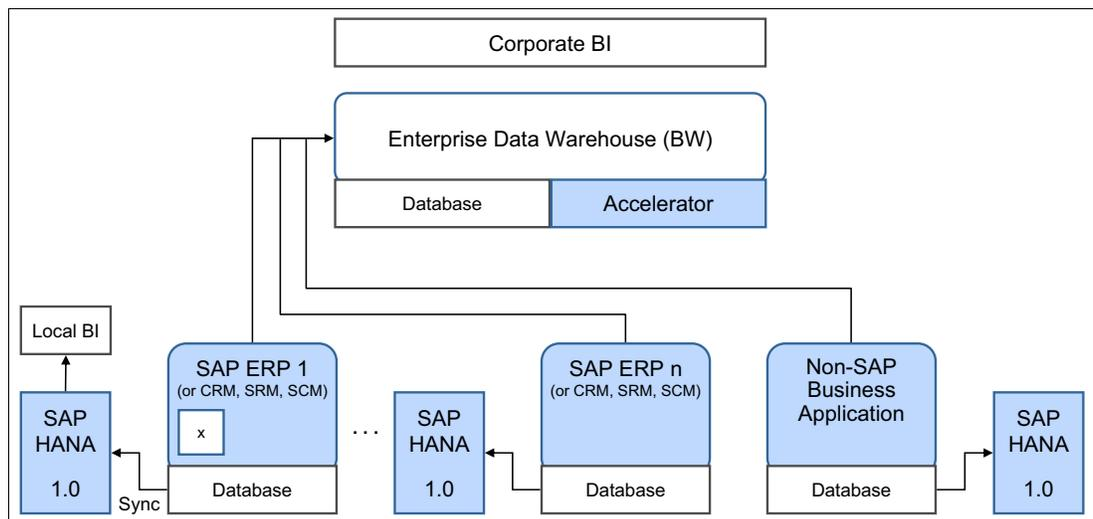

Figure 4-6 SAP vision after the introduction of SAP HANA
With the introduction of SAP HANA 1.0, SAP provided an in-memory technology that supports Business Intelligence (BI) at a business unit level. SAP HANA combined with business intelligence tools, such as the SAP BusinessObjects tools and data replication mechanisms feeding data from the operational system into SAP HANA in real time, brought in-memory computing to the business unit level. Figure 4-6 shows such a landscape with the local data marts replaced by SAP HANA.